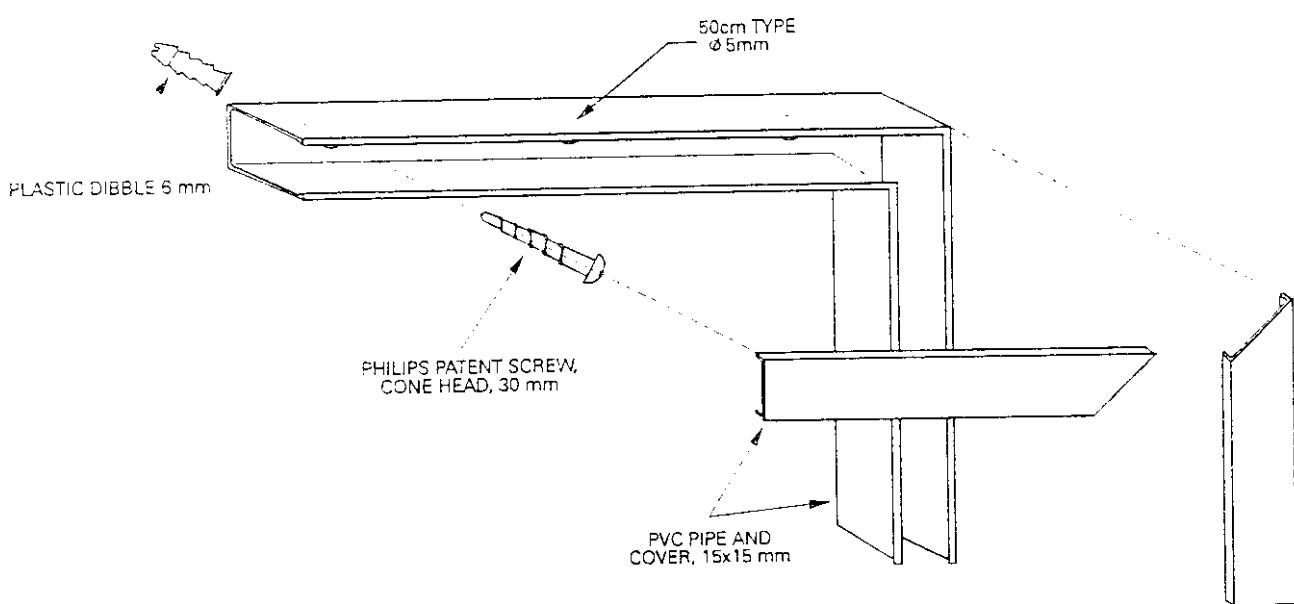

Figure 5-7. PVC Cable Channelling
- PVC Cable Tray (see Figure 5-7).